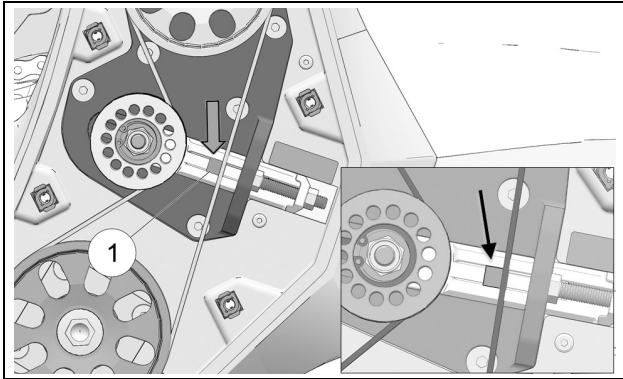

Figure 42
- Slide the red tension gauge (1), incorporated in tensioner mechanism, to the outer edge of the Syncrodrive belt. See Figure 42.